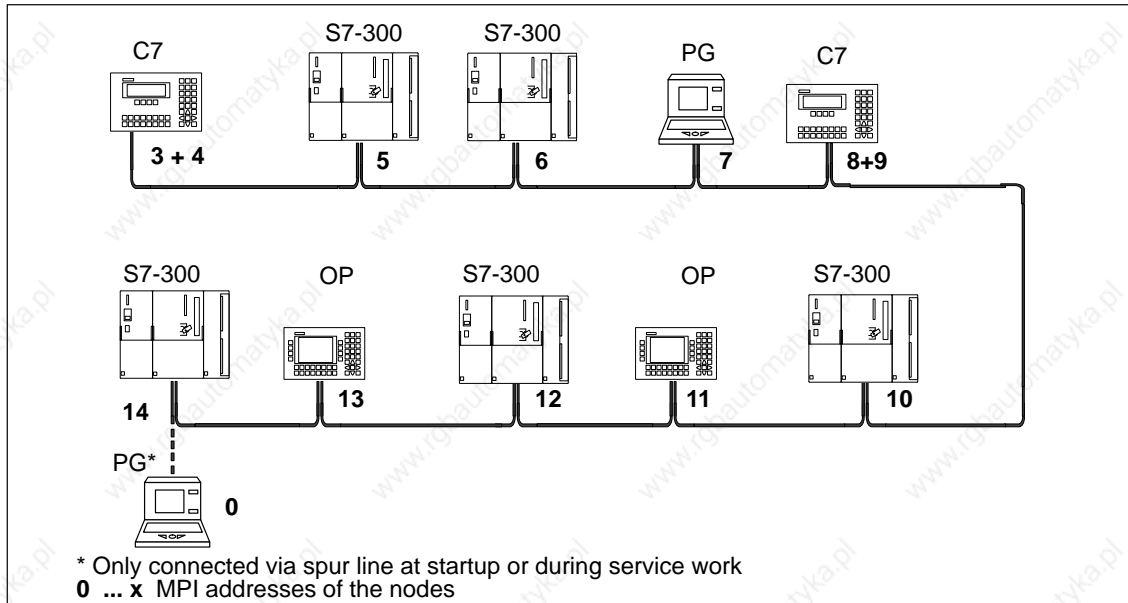

Figure 3-5 Example of an MPI Network
- Connect all nodes in the MPI network as shown in Figure 3-5; that is, integrate the stationary programming devices and OPs direct in the MPI network.
Figure 3-5 shows the principle of configuring an MPI network according to the rules listed above.